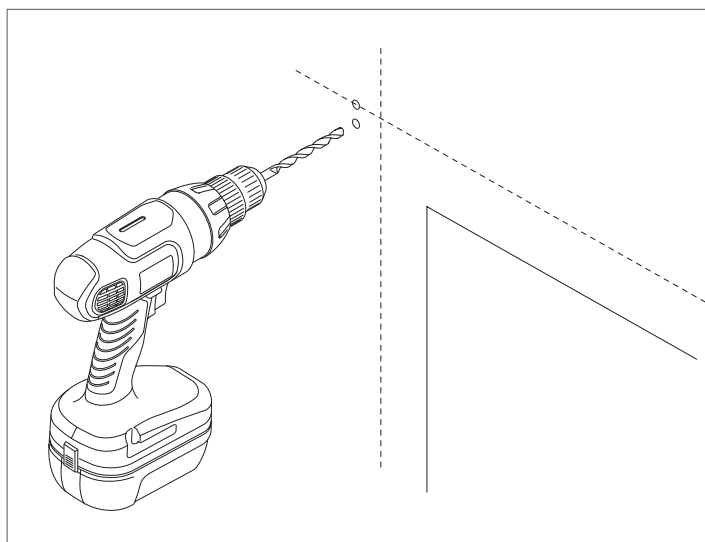

Figure 3
5. Drill out the marked holes using a drill with a 1/4" drill bit (Figure 3).